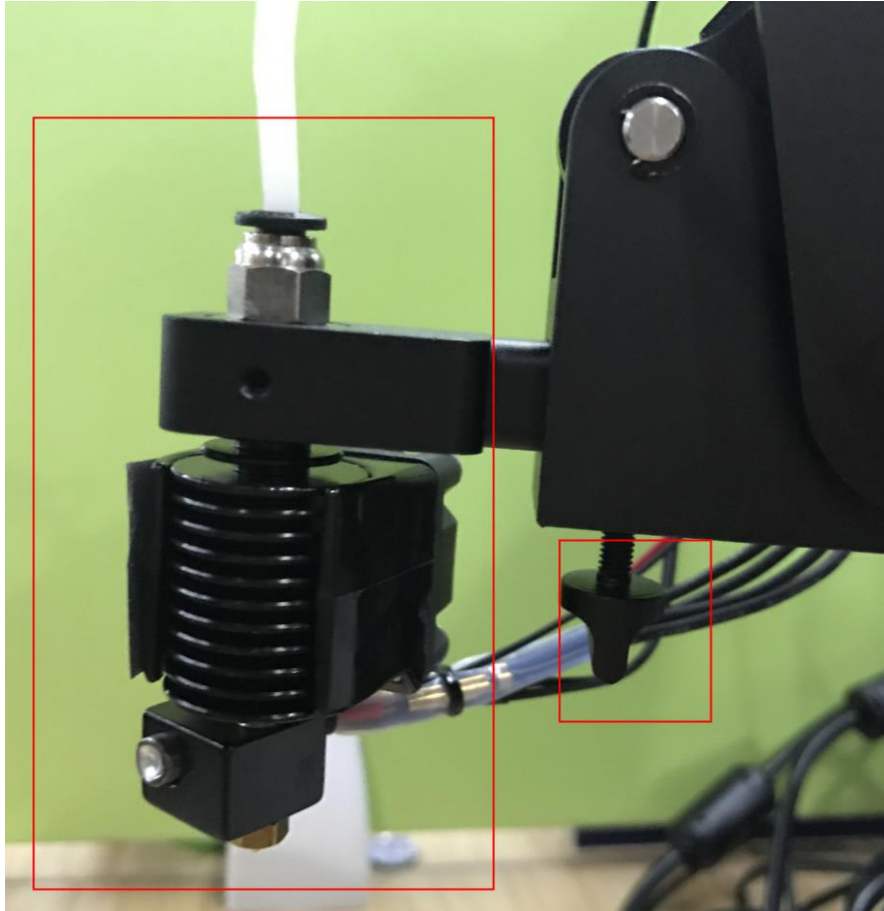

Figure 5.120 Fix hot end
Step 4 Fix the hot end on the Dobot Magician with butterfly nut, as shown in Figure 5.120.